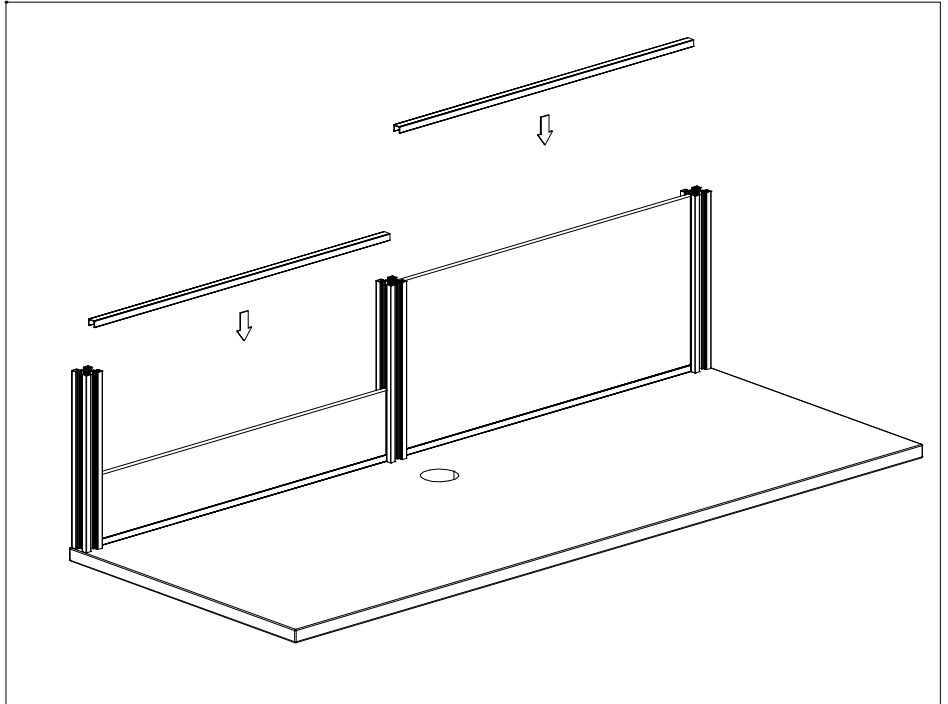

FIGURE 5
6. Repeat steps 3 to 5 until all screens are in position except accessory screen shown in (Figure 5).